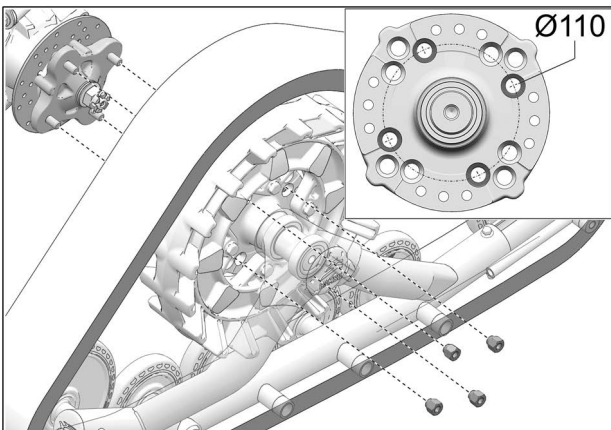

Fig. 12
10. Secure undercarriage to rear hub using vehicle's own lug nuts. Use bolt circle  $\varnothing 110$  mm. See Fig. 12